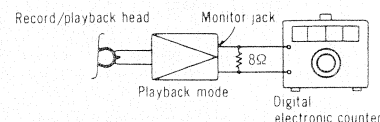

Fig. 1
- 2. While the chip is hot remove it by turning with tweezers as shown in fig. 1.
㊦ Tape speed accuracy adjustment Condition: * Playback mode Equipment: * Digital electronic counter or frequency counter * Test tape...QZZCWAT * Resistor (8Ω)	Tape speed accuracy 1. Test equipment connection is shown in fig. 1. 2. Playback test tape (QZZCWAT 3,000Hz), and supply playback signal to frequency counter. 3. Take measurement at middle section of test tape. 4. Measure this frequency. 5. On the basis of 3,000Hz, determine value by following formula: $\text{Tape speed accuracy} = \frac{f - 3,000}{3,000} \times 100 (\%) \quad \text{where, } f = \text{measured value}$ <div style="border: 1px solid black; padding: 5px; text-align: center;"> Standard value: ±2.5% (f = 2,925—3,075 Hz) </div> 6. If measured value is not within standard, adjust VR201 (shown in circuit boards and wiring connection diagram), so that frequency becomes 3,000Hz.